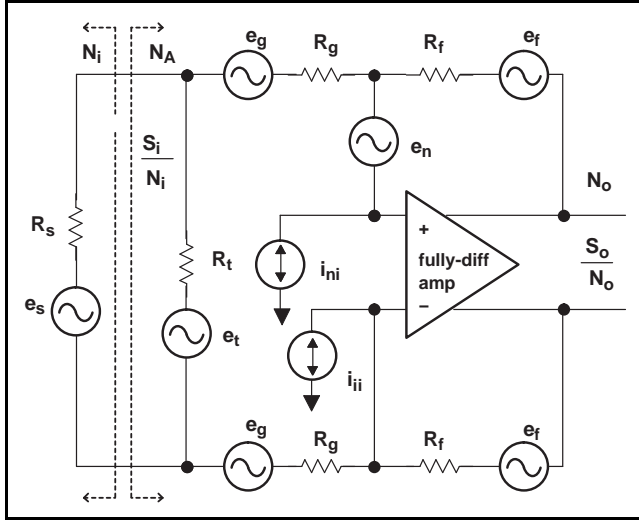

Figure 112. Noise Sources in a Fully Differential Amplifier Circuit
Noise analysis in fully differential amplifiers is analogous to noise analysis in single-ended amplifiers; the same concepts apply. Figure 112 shows a generic circuit diagram consisting of a voltage source, a termination resistor, two gain setting resistors, two feedback resistors, and a fully differential amplifier is shown, including all the relevant noise sources. From this circuit, the noise factor (F) and noise figure (NF) are calculated. The figures indicate the appropriate scaling factor for each of the noise sources in two different cases. The first case includes the termination resistor, and the second, simplified case assumes that the voltage source is properly terminated by the gain-setting resistors. With these scaling factors, the amplifier input noise power (N_A) can be calculated by summing each individual noise source with its scaling factor. The noise delivered to the amplifier by the source (N_i) and input noise power are used to calculate the noise factor and noise figure as shown in Equation 23 through Equation 27.